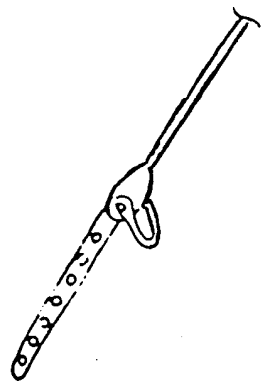

FIGURE 3
5. Connect the lifting strap snap to the forestay. On some catamarans, the forestay is equipped with a thimble at its end. On others, such as the Hobie 18, it will be necessary to add a clevis as shown in Figure 3. Even with a thimble you may prefer to add a clevis permanently to the thimble. On some catamarans with double trapeze wires, one of the trapeze wires can be used in place of the forestay for lifting the mast. This allows easy connecting of the forestay.